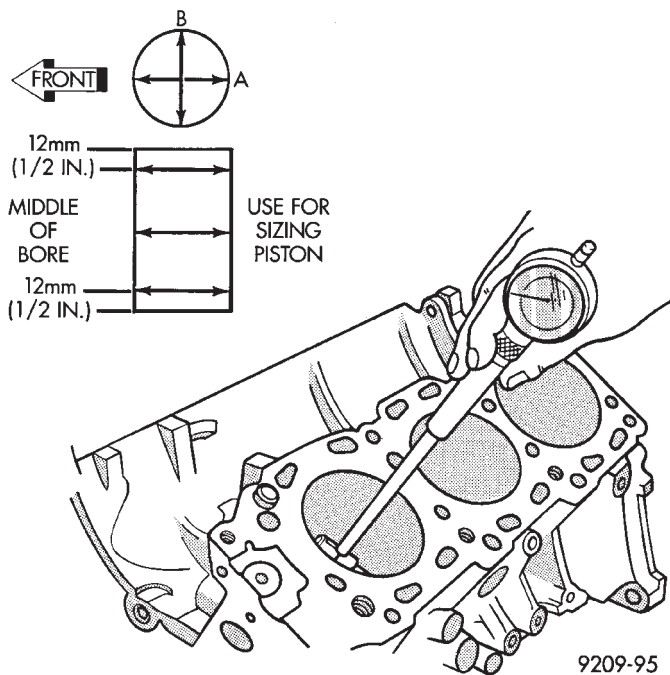

Fig. 5 Checking Cylinder Bore Size
- (1) Measure the cylinder bore at three levels in directions A and B (Fig. 5). Top measurement should be 12mm (.50 inch) down and bottom measurement should be 10mm (.38 inch) up.
- (2) Standard bore dimension: 91.1mm (3.587 inch)
- (3) Maximum out-of-round or taper: 0.02mm (.0008 inch)